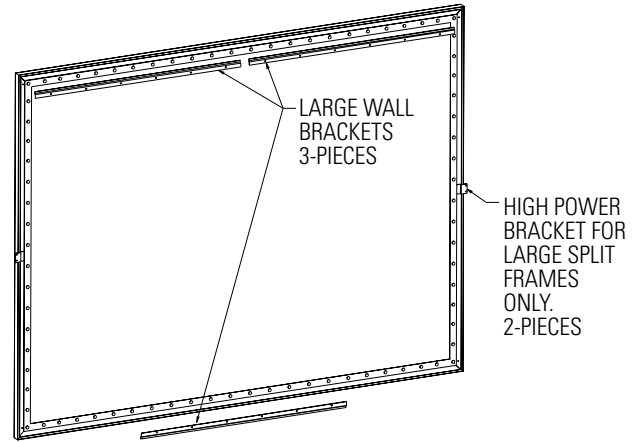

FIGURE 7
3. Some large screen sizes (240") are made with 2-piece side frame rails. For this type of frame you will need to attach one High Power bracket to each side at the joint. Use the black #10 screws supplied. See Figure 7.